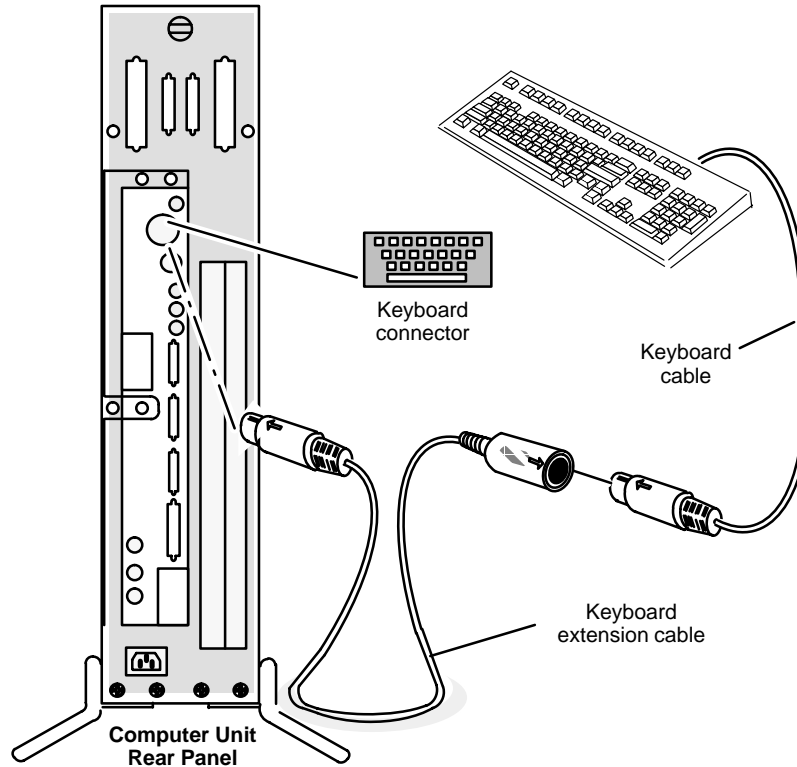

Figure 2-5 Connecting the Graphics Keyboard
3. Attach the female end of the keyboard extension cable to the end of the keyboard cable; then, plug the other end of the extended keyboard cable into the keyboard connector on the rear panel of the computer unit, as shown in Figure 2-5.